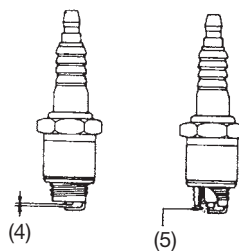

Fig. 10
- 2) Scrape off the carbon from the spark plug gap. (Standard gap is 0.60 mm or 0.023 in.) (Fig.10)